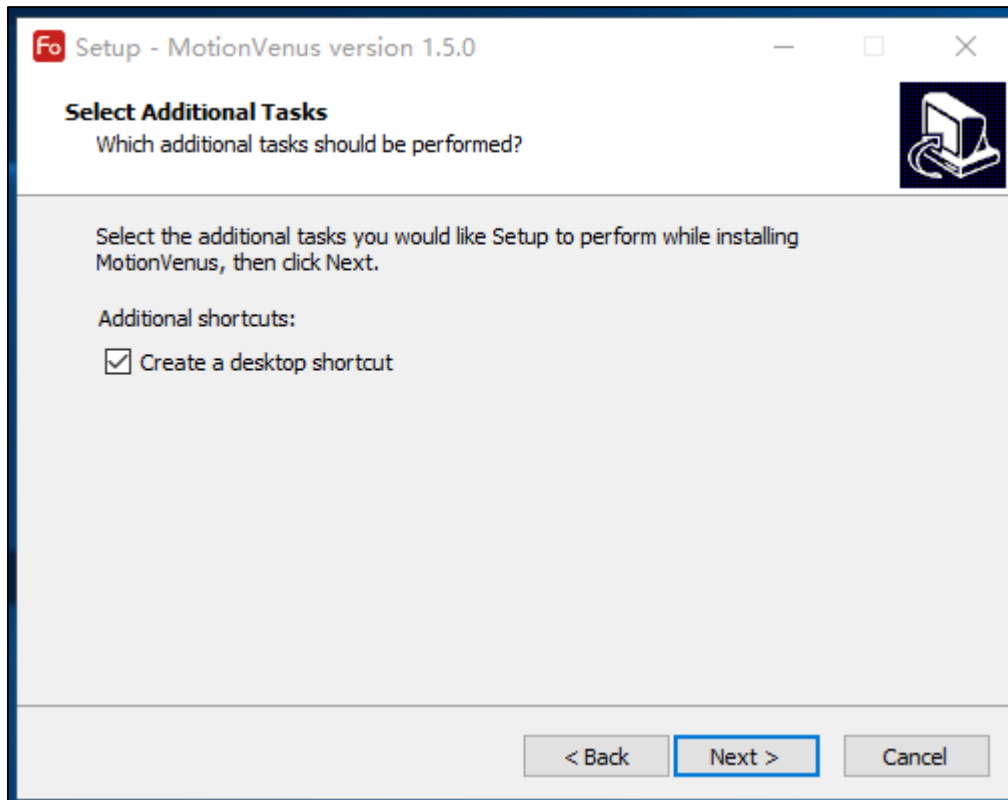

Fig.3.1.4. Installation page 4
- (4) by default, it will "create desktop shortcut" and click next. As shown in figure 3.1.4.